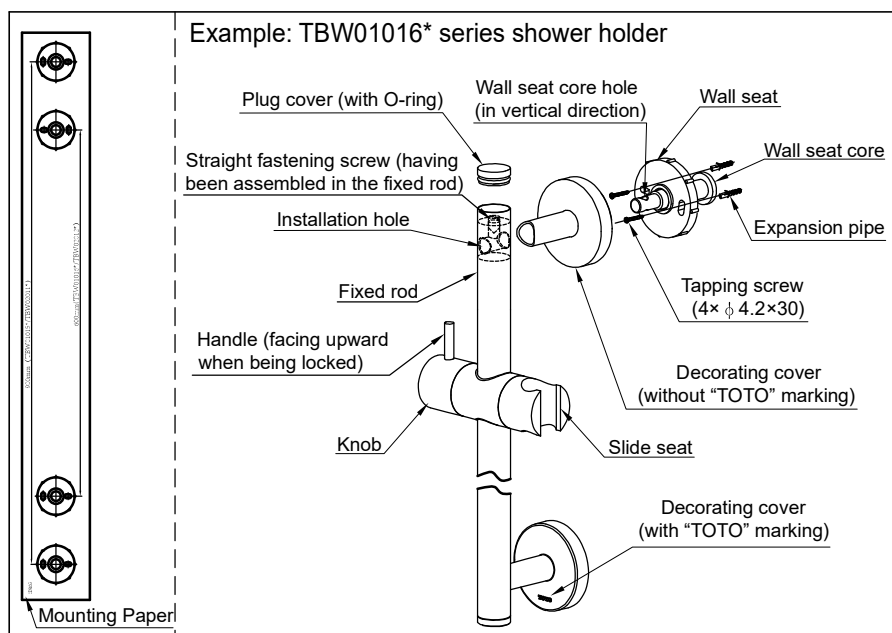

Figure 1: Shower holder installation
1. As shown in figure 1, try to assemble the slide type shower holder. Install properly the fixed rod, slide seat, wall seat core, wall seat and decorating cover. (For specific assembly process, refer to step 3)